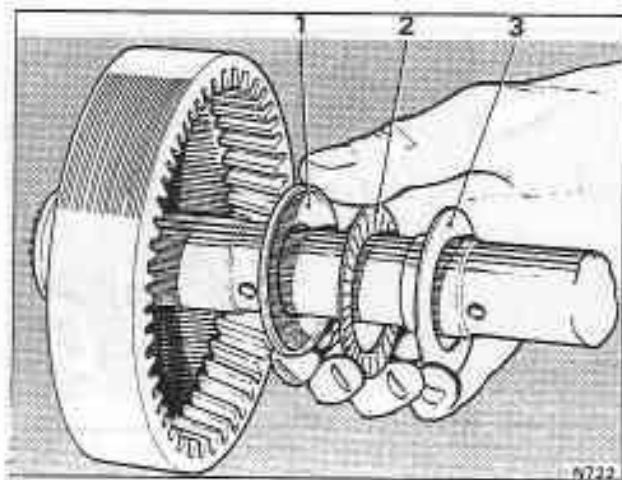

Fig. T20-14 Fitting the races and thrust bearing to the inner face of the rear internal gear
3. Fit the races and thrust bearing onto the inner face of the rear internal gear, retaining them with a smear of petroleum jelly (see fig. T20-14).